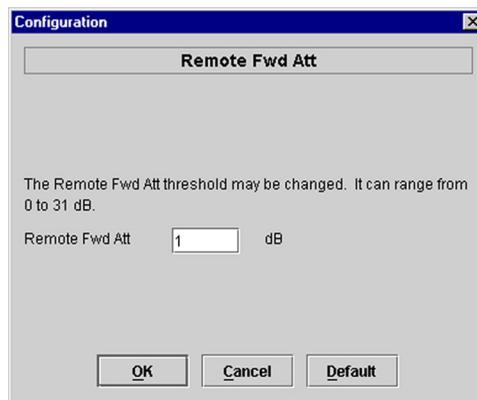

Figure 35. Entering Remote Forward Attenuation
4. In the **Remote Fwd Att** dialog, key in the desired setting as shown in the example in Figure 35.